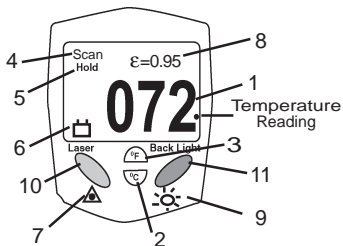

Figure 5
2. Press the Laser Key (10) while pressing the On/Off Key (E). Point the IR Sensor (B) of the Laser directly at the target and the temperature reading will appear on the LCD Display.
3. You may set the temperature to Fahrenheit (3) or Celsius (2) by pressing the reading switch on the Indicator. See Figure 5, page 7.
5. When you release the On/Off Key (E), the last reading will be held for 7 seconds. The HOLD (5) icon appears on the LCD Display. See Figure 5, page 7.
6. If your battery is low, the screen will indicate "low battery" (6). See Figure 5. At this time you will need to replace the batteries. Dispose of old batteries. Contact local Hazard Waste Disposal authorities for proper guidelines for disposal. See page 7.
11. Read the measured temperature. The Laser powers OFF automatically after about 7 seconds when the On/Off Key (12) is released.